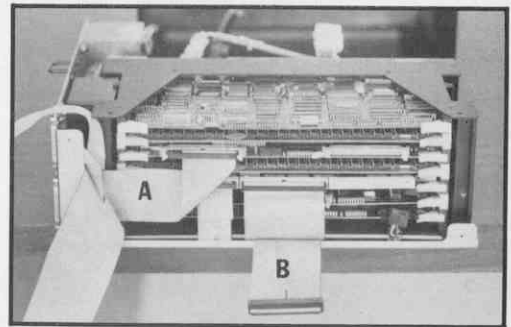

Figure 59 Keyboard/Mouse Cable Connection
- 4.38** Connect the keyboard/mouse cable to the CPU board as shown in Figure 59. Skip to step 4.40 if you have a 1/2" tape controller.
- 4.39** If you've already connected the short tape control cable to the 1/4" tape controller, tuck the long tape control cable (Figure 59) between boards 1 and 2 OR 2 and 3 in the card cage.